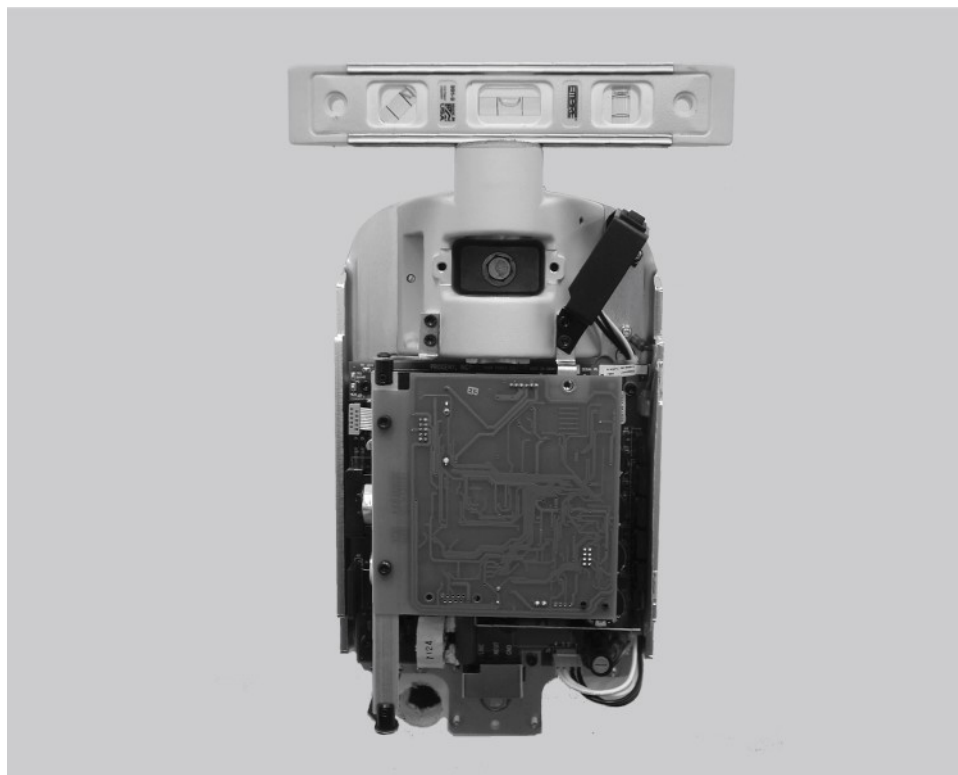

Figure 14
5. Place a level on the Control Unit bearing parallel to the wall, as shown in Figure 14. Level the Control Unit.